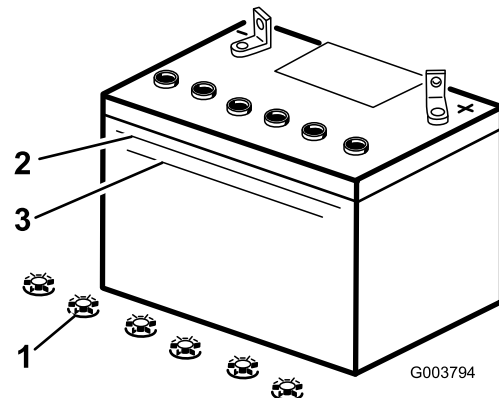

Figure 29
3. Look at the side of the battery. The electrolyte must be up to the Upper line (Figure 29). Do not allow the electrolyte to fall below the Lower line (Figure 29).
3. Remove the filler caps from the battery (Figure 29).
4. Slowly pour distilled water into each battery cell until the electrolyte level is up to the Upper line (Figure 29) on the battery case.
5. Wait five to ten minutes after filling the battery cells. Add distilled water, if necessary, until the electrolyte level is up to the Upper line (Figure 29) on the battery case.